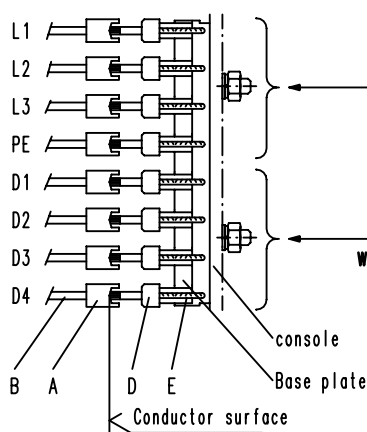

Fig.2 Example 9 poles:
- C Fig. 2 Conductor rail feed cable :
- F Fig. 2 Current collector connecting cable :